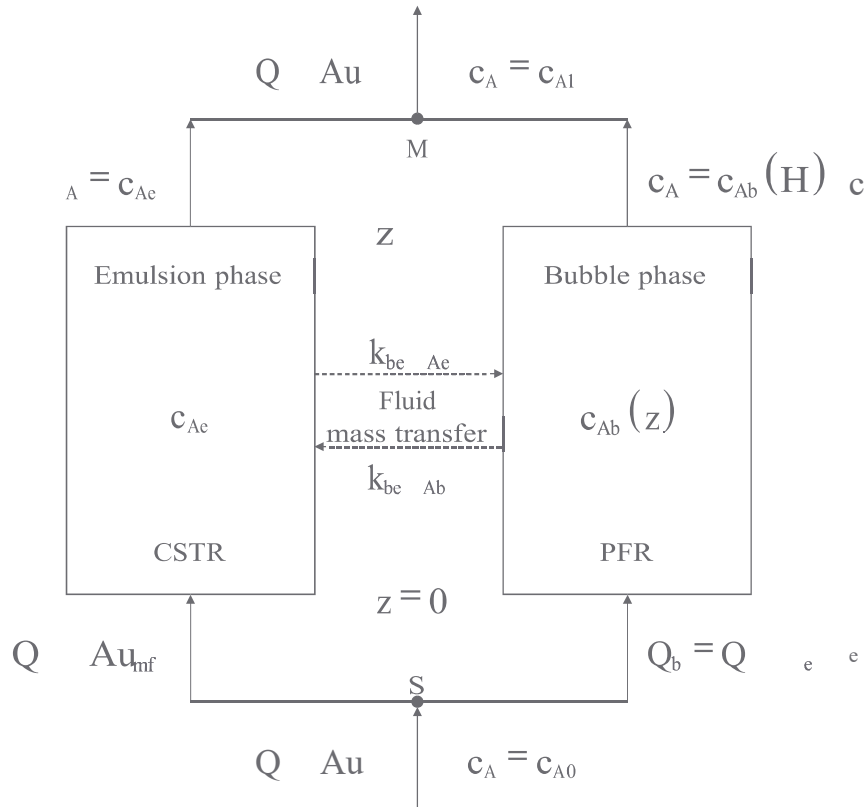

Figure Q.3: Schematic block diagram of the bubbling fluidized bed combustor.
- c) Using the two-phase theory, we can model the isomerization reactor as shown in Figure Q.3. The meaning of the symbols adopted and the values of some of them are reported in Table Q.3. Explain using entirely your own words what the two-phase theory states and discuss the assumptions on which the two-phase theory of Toomey & Johnstone is based.